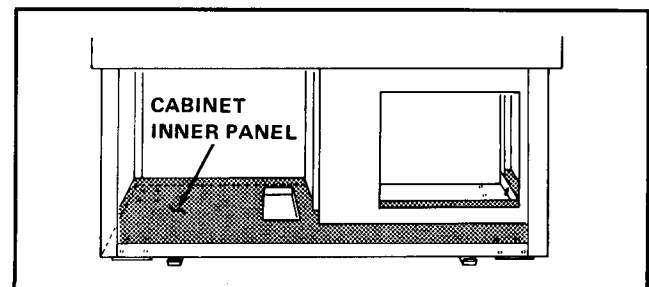

FIGURE III-3
2. There is a Cabinet Inner Panel that extends from the front of the Cabinet to the rear of the Cabinet on the left-hand side and one that extends from the front of the Cabinet half-way back to the rear on the right-hand side. DO NOT drill into these Cabinet Inner Panel. See Figure III-3.